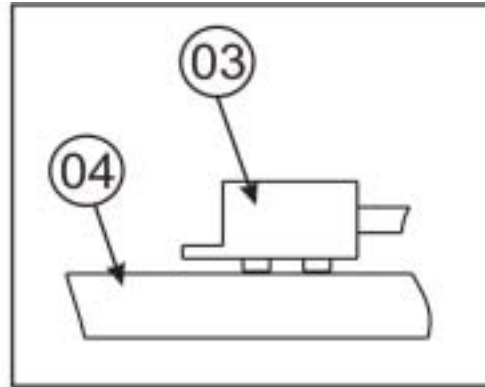

Figure 08
- Make sure the part 03 is leveled with the table. The part 03 must move back and forth easily over the table fig. 08.